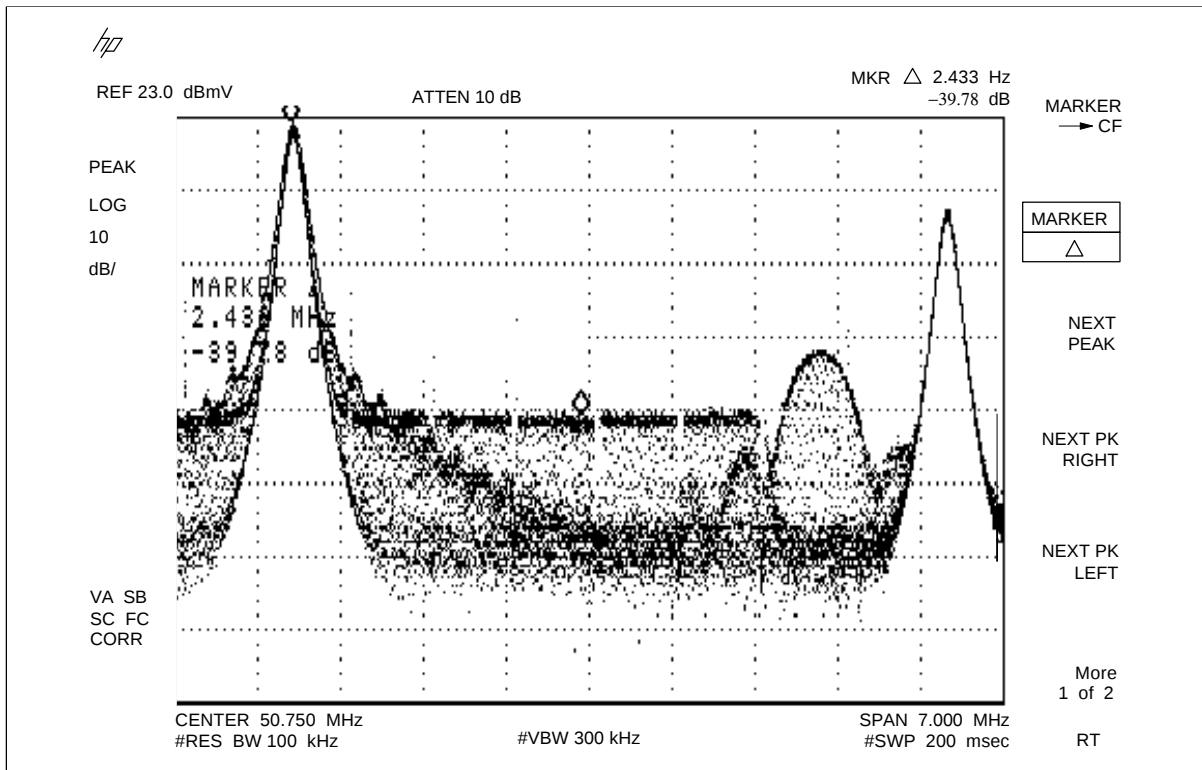
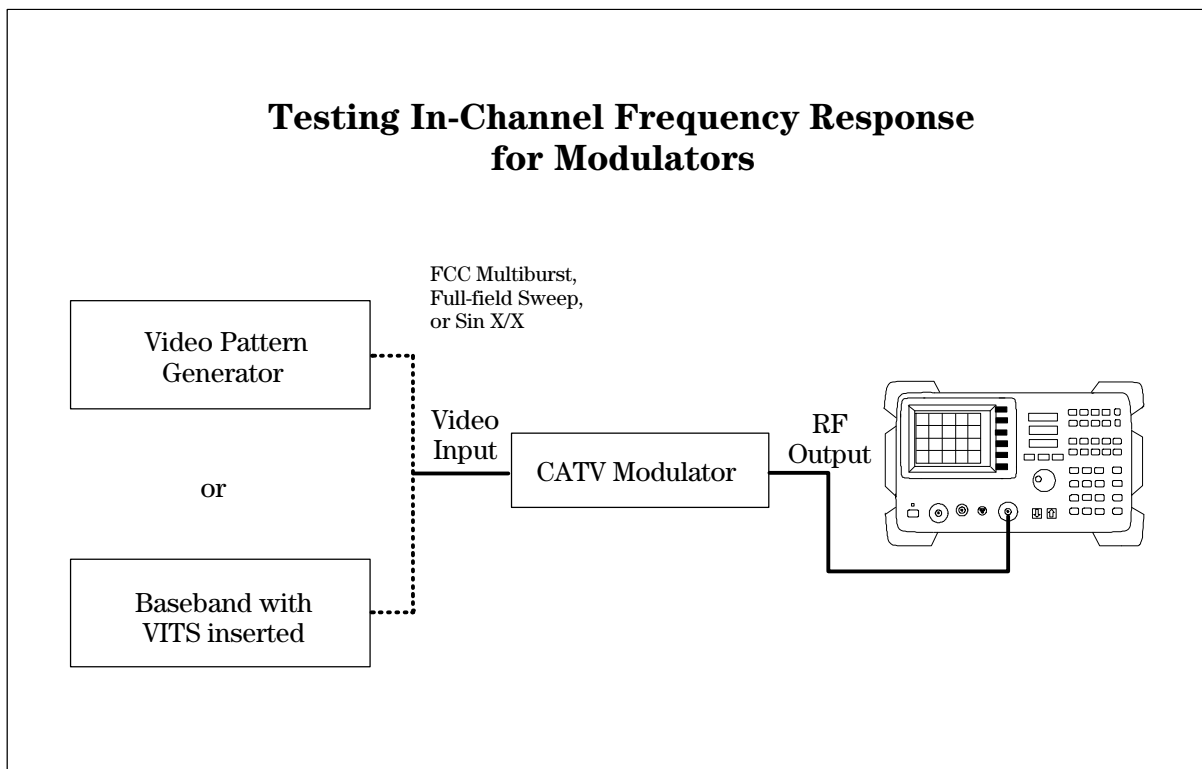

Figure 4.15. A sinx/x video test signal is applied to the CATV modulator and the analyzer displays the collective results.
Figure 4.16. Testing in-channel frequency response with program video using local VITS or inserted VITS on program video.
originate with the program video or can be injected in front of the processor. Figure 4.16 shows the setups.
- 1) Set up as in Figure 4.16. The channel selected should be one which has a VITS signal. Figure 4.15 shows the VITS signal for this test. Set the spectrum analyzer as follows: